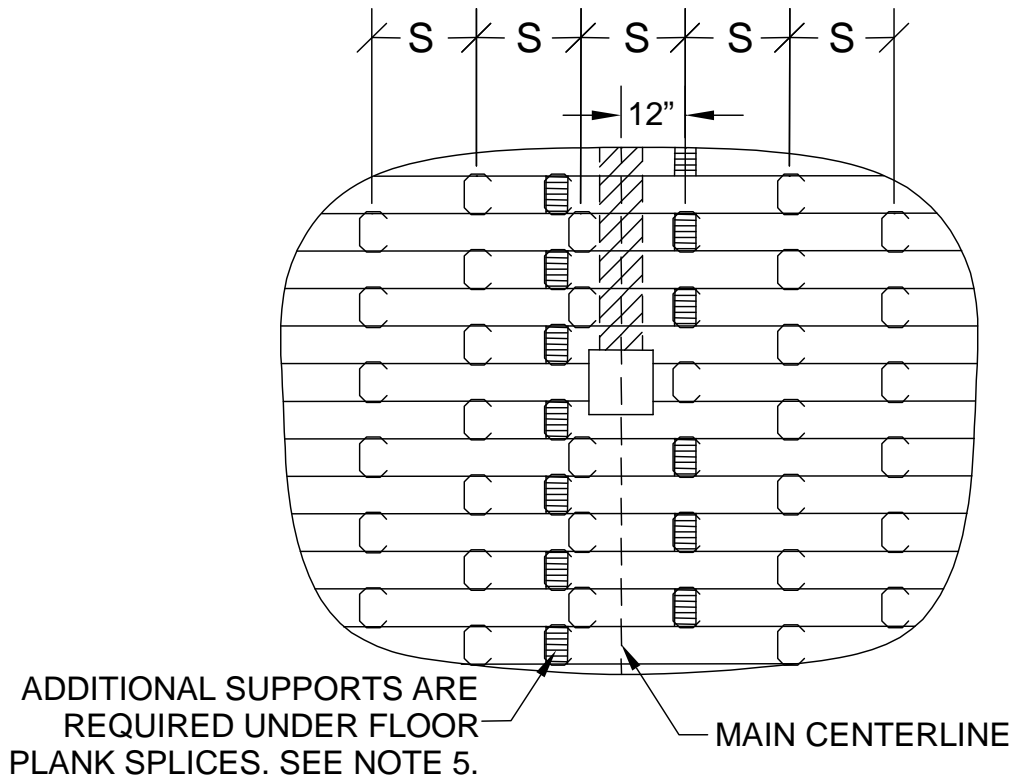

FIGURE 48.2: Support Orientation – 4804 to 4807
1. For bin models 4804 – 4806 mark first chalkline 12" away from one side of main centreline. Mark all other chalklines relative to first chalkline at standard spacing "S" specified in table. See Fig. 48.2.
4. For bin models 4804 – 4806 each pair of supports on the two middle chalklines should be placed under the same plank. For 4807 – 4813 choose main centerline and one adjacent chalkline. See Figs 48.2 and 48.3.
5. Where floor plank splices do not line up with a chalkline, additional supports are included and must be installed directly under each splice as illustrated in Fig. 48.2.